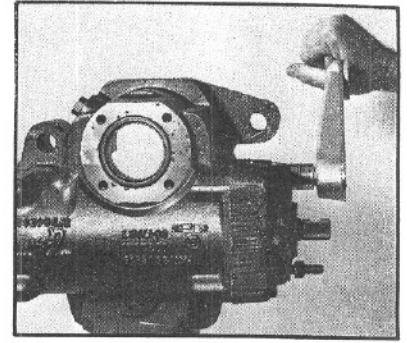

Figure 129
27. Install the four valve housing bolts (1; 2.125 in. long) into the valve housing (9) and torque them to 105-115 ft. lbs. (FIG. 129).